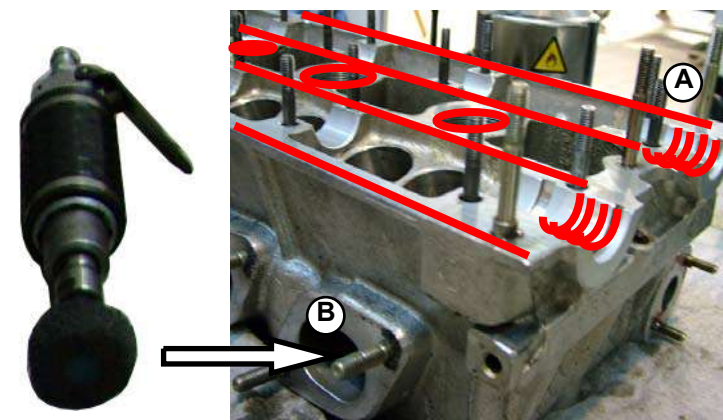

Fig.3
1. Rub all the head support surfaces with a scouring pad (**A-Fig.3**).
2. Clean the exhausts (**B-Fig.3**) using the scraper tool.